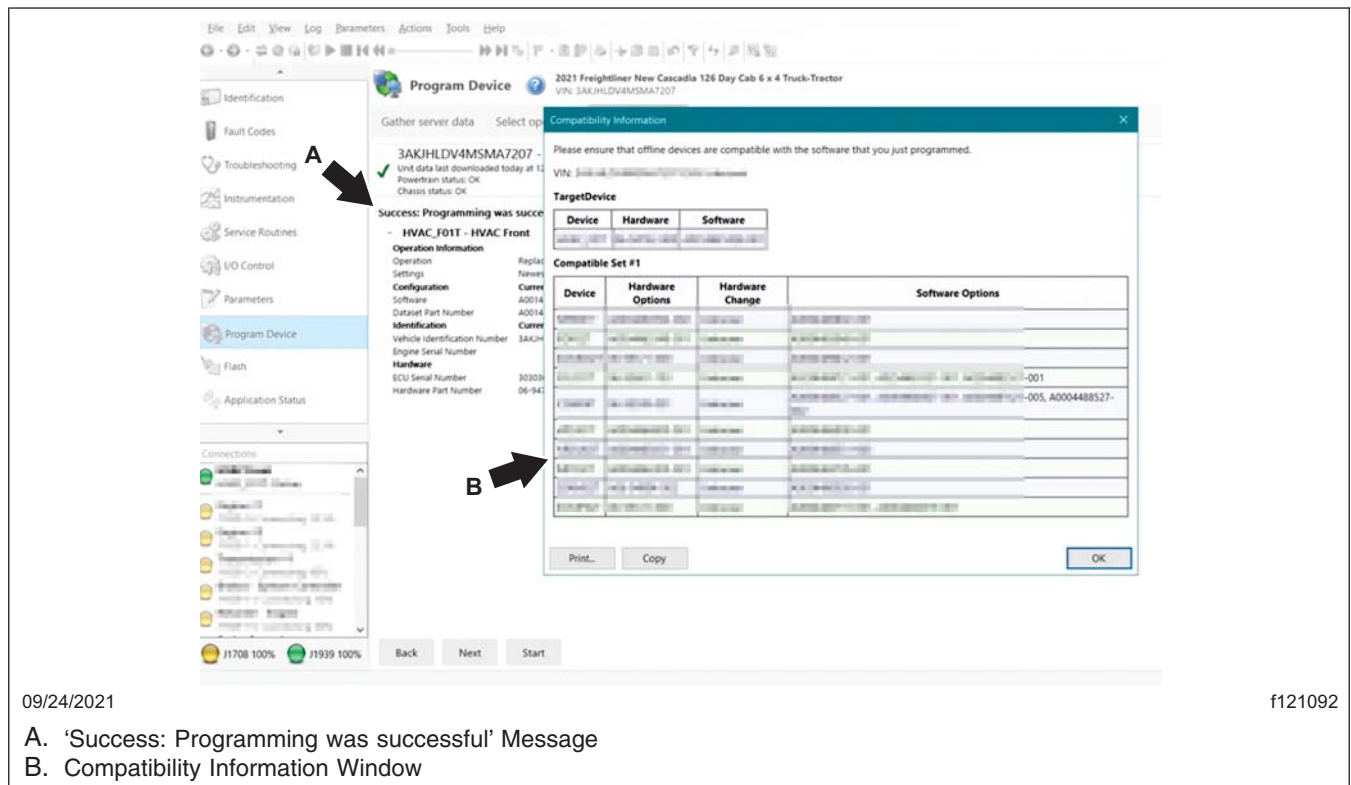

Fig. 10, Successful Programming Message and Compatibility Window
11. When programming is complete, the message 'Success: Programming was successful' appears on the screen indicating the XMC ECU has been successfully updated. See Fig. 10.
If the 'Compatibility Information' window appears in DiagnosticLink, select 'Print,' or capture a screen shot of the 'Compatibility Information' window. See Fig. 10.